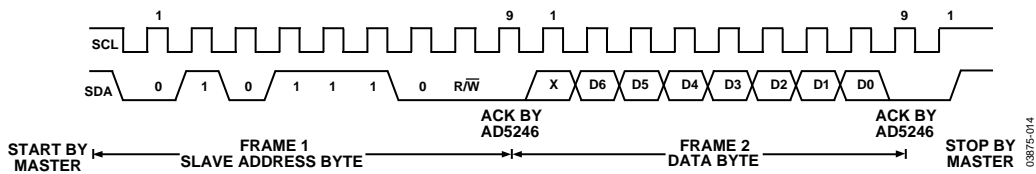
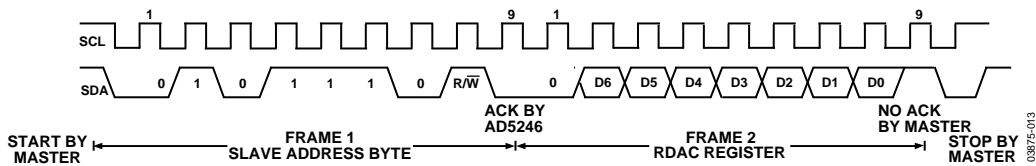

Figure 27. Writing to the RDAC Register
Figure 28. Reading from the RDAC Register
1. The master initiates data transfer by establishing a START condition, which is when a high-to-low transition on the SDA line occurs while SCL is high (see Figure 27). The following byte is the slave address byte, which consists of the 7-bit slave address followed by an  $\overline{\text{R/W}}$  bit (this bit determines whether data will be read from or written to the slave device).
3. In read mode, after acknowledgement of the slave address byte, data is received over the serial bus in sequences of nine clock pulses (a slight difference from the write mode where eight data bits are followed by an acknowledge bit). Similarly, the transitions on the SDA line must occur during the low period of SCL and remain stable during the high period of SCL (see Figure 28).
4. When all data bits have been read or written, a STOP condition is established by the master. A STOP condition is defined as a low-to-high transition on the SDA line while SCL is high. In write mode, the master pulls the SDA line high during the tenth clock pulse to establish a STOP condition (see Figure 27). In read mode, the master issues a No Acknowledge for the ninth clock pulse (that is, the SDA line remains high). The master then brings the SDA line low before the tenth clock pulse, which goes high to establish a STOP condition (see Figure 28).